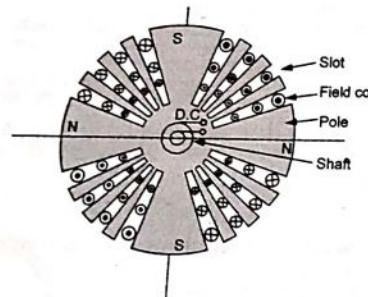

Fig. 9.4.3 Smooth cylindrical rotor
- The Fig. 9.4.3 shows smooth cylindrical type of rotor.